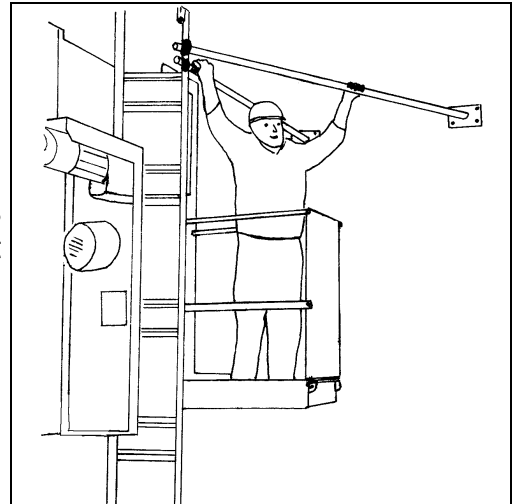

Fig. 37 Open assembly plank
- Rectangular alignment of the mast can be done using the two scaffold couplings (Fig. 37 Pos.5).